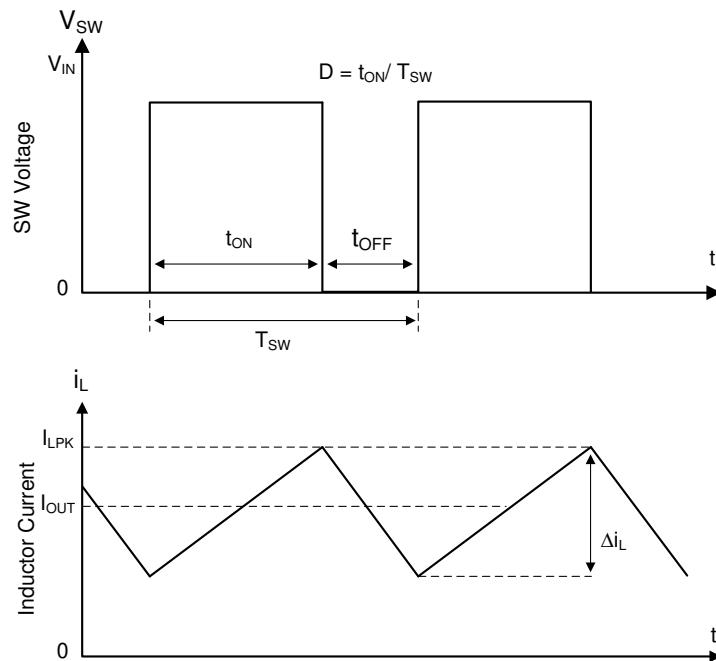

Figure 7-1. SW Node and Inductor Current Waveforms in Continuous Conduction Mode (CCM)
The following operating description of the LMR514x0-Q1 refers to Functional Block Diagram and to the waveforms in Figure 7-1. The LMR514x0-Q1 is a step-down synchronous buck converter with integrated high-side (HS) and low-side (LS) switches (synchronous rectifier). The LMR514x0-Q1 supplies a regulated output voltage by turning on the high-side and low-side NMOS switches with controlled duty cycle. During high-side switch ON time, the SW pin voltage swings up to approximately V_{IN} , and the inductor current, i_L , increases with linear slope $(V_{IN} - V_{OUT}) / L$. When the high-side switch is turned off by the control logic, the low-side switch is turned on after an anti-shoot-through dead time. Inductor current discharges through the low-side switch with a slope of $-V_{OUT} / L$. The control parameter of a buck converter is defined as Duty Cycle $D = t_{ON} / T_{SW}$, where t_{ON} is the high-side switch ON time and T_{SW} is the switching period. The converter control loop maintains a constant output voltage by adjusting the duty cycle D. In an ideal buck converter, where losses are ignored, D is proportional to the output voltage and inversely proportional to the input voltage: $D = V_{OUT} / V_{IN}$.